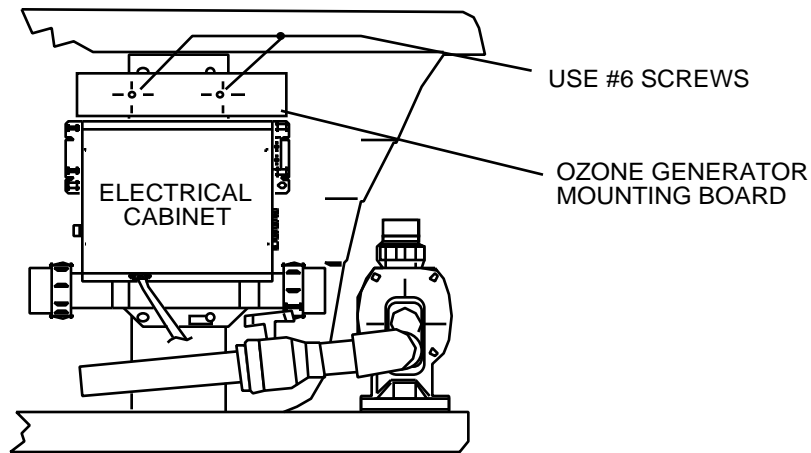

FIGURE 3 - MOUNTING BOARD
- Install the ozone generator according to the manufacturer's instructions. Attach the 4-1/2" x 14" x 1/2" thick plywood board to the spa, just above the electrical cabinet, using the #6 screws provided. Several commercially available ozone generators will fit easily in this location. Attach the ozone generator to the board using the #10 screws provided. See Figure 3.